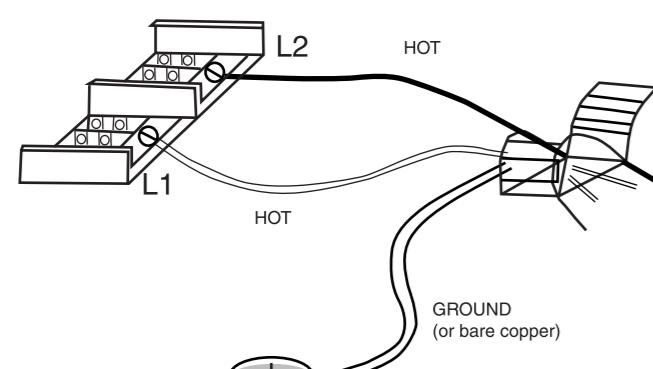

Figure 7
- Connect the wire to the power block located in the base of the heater (see Figure 7).